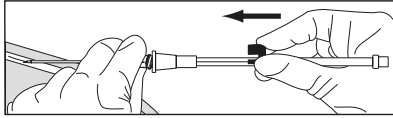

Figure 2
9. Stabilize position of introducer needle and carefully advance spring-wire guide into vessel using spring-wire guide handle (refer to Figure 2).